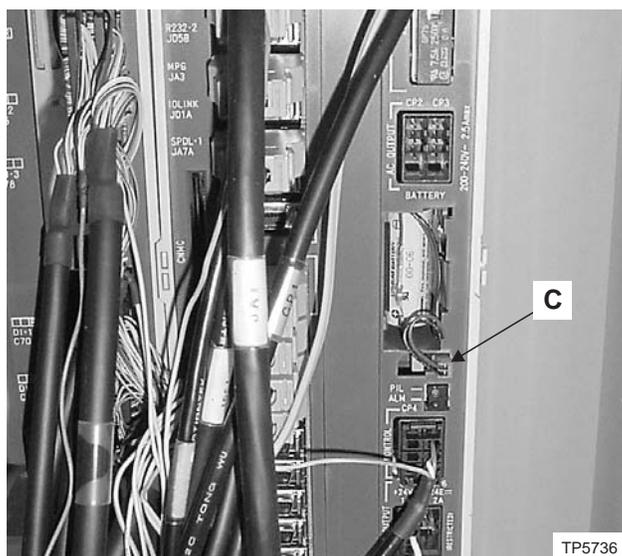

Figure 5.3 - Control Battery Connection
6. Disconnect the old battery pack from receptacle "C", Figure 5.3.